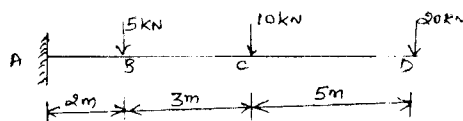

Fig. Q4 (b)
- b. Calculate the shear force and bending moment. Draw shear force diagram and bending moment diagram in Fig. Q4 (b). (14 Marks)